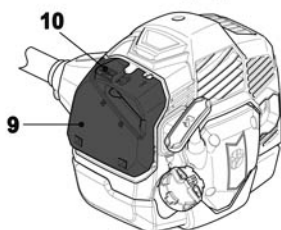

Fig. 36
- > Press the latch [10] and lower the cover [9] (Figs. 36, 37).